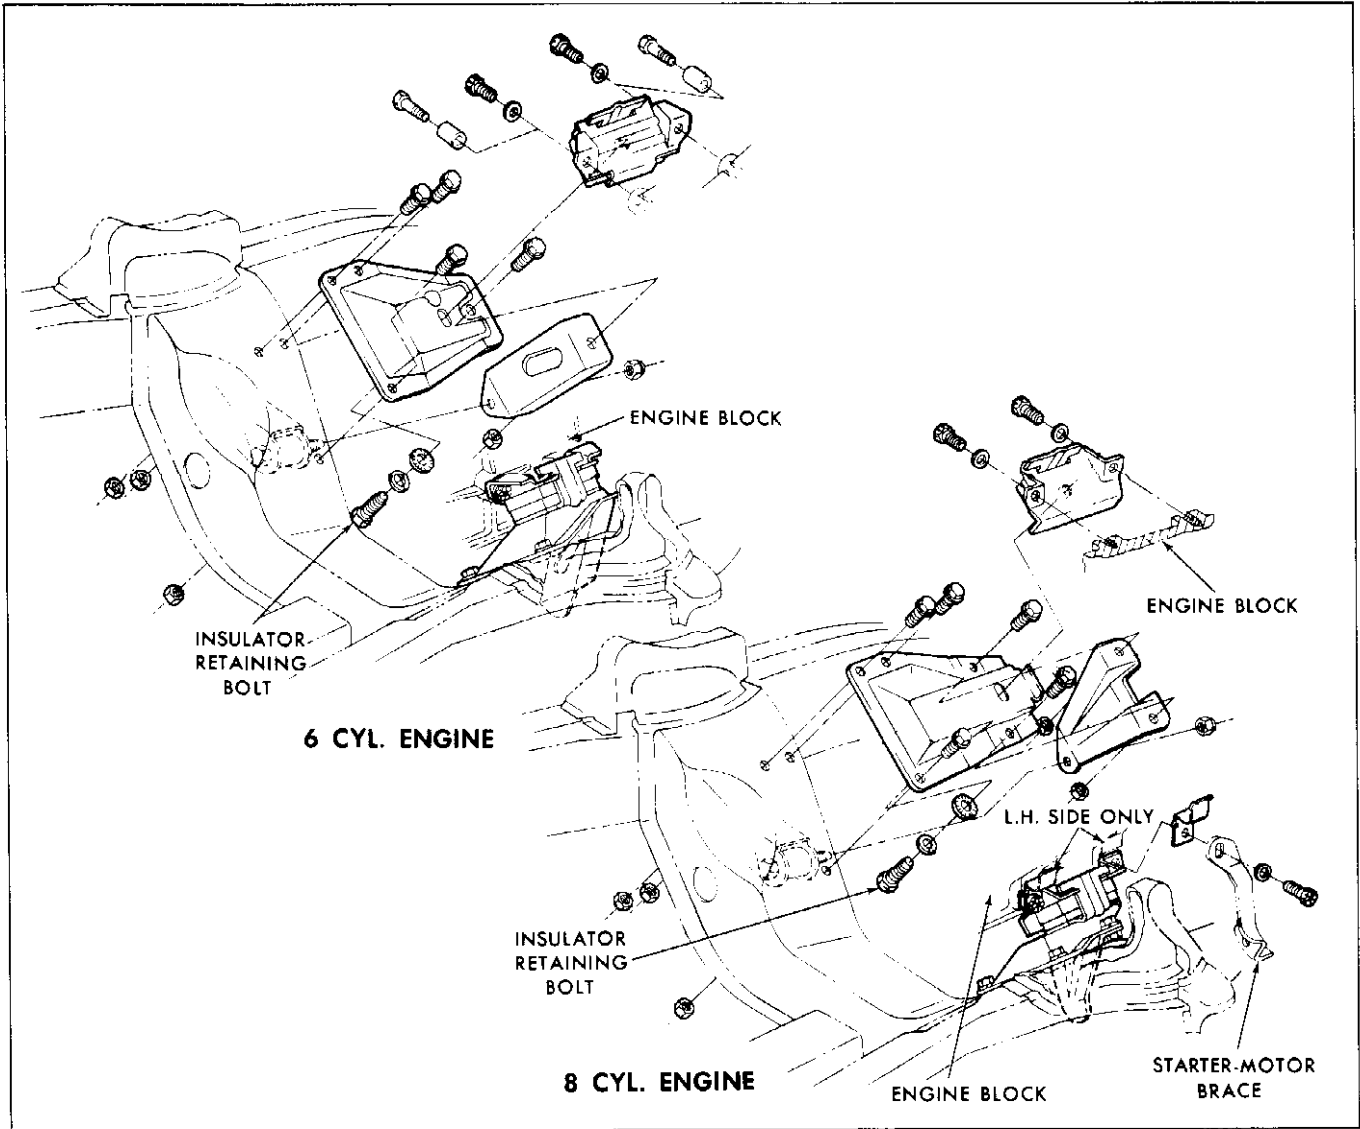

Fig. 6-2 Engine Insulators - 6 Cyl. and 8 Cyl.
1. Rotate harmonic balancer until timing mark is at bottom (Fig. 6-2).
4. Remove insulator-to-engine bolts and remove insulators (Fig. 6-2).